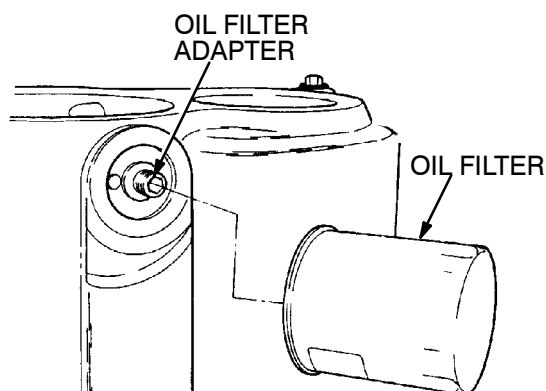

Figure 2. Oil Filter Removal.
- (2) Use a filter strap wrench to remove the oil filter. Discard the filter and replace it with a new filter at assembly. Figure 2.